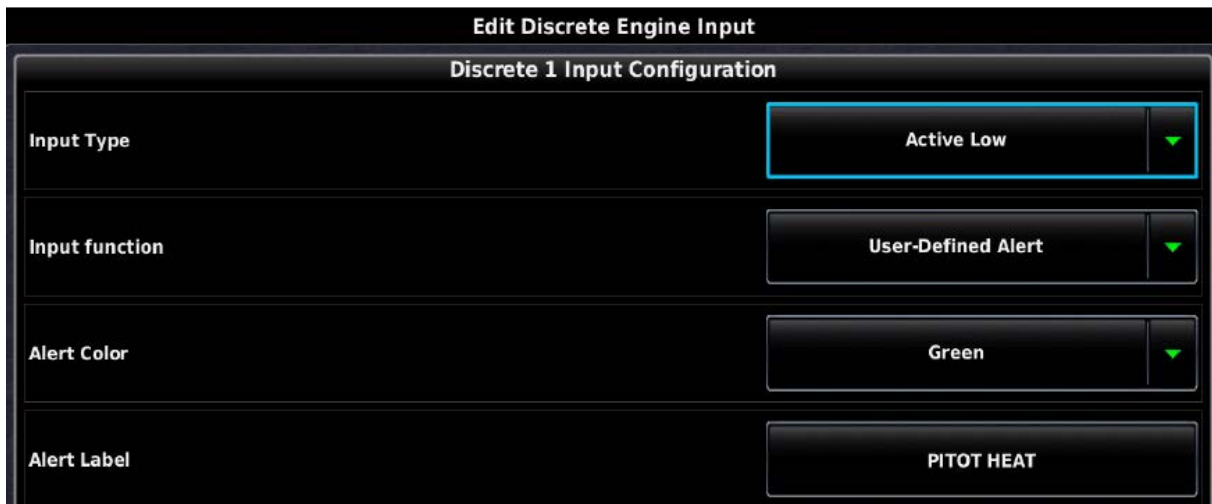

Figure 30-63 GAP 26 Alert Configuration
1. The discrete input configuration shown in Figure 30-63 will result in a green "PITOT HEAT" indication that will appear on the PFD any time the GAP 26 heater is powered and the probe temperature is above approximately 25° C (77° F). If pitot heat is powered off or inoperative, the green "PITOT HEAT" indication will not appear.